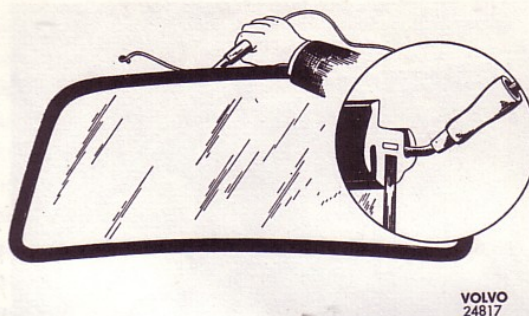

Fig. 40. Placing cord in rubber strip.
2. Fit a cord (preferably terylene, 5 mm =  $3/16$ "") in the groove of the rubber strip for the sheet metal edge, beginning at the top centre as shown in Fig. 40.